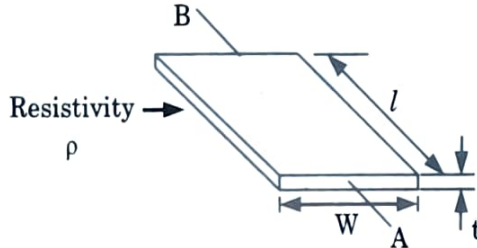

Fig. 1.19.1. Sheet resistance model.
1. Consider a uniform slab of conducting material of resistivity ρ , of width W , thickness t , and length between faces l . The arrangement is shown in Fig. 1.19.1.